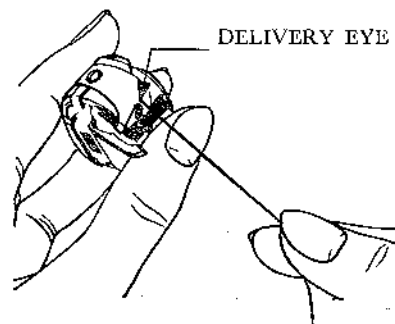

Fig. 3
- 4) Pass the thread between the discs of the thread guide bracket. (Fig. 3)
Pull it under the tension spring and then into the delivery eye (Fig. 3).